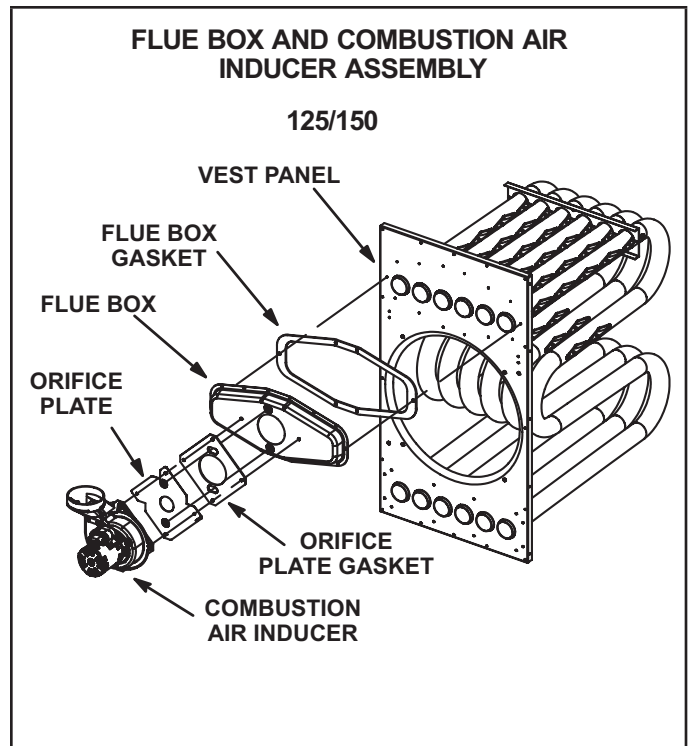

FIGURE 2
- 3 - Before making an electrical or gas connections, use a socket to remove the four screws which secure the combustion air inducer to the flue box. See figure 2.